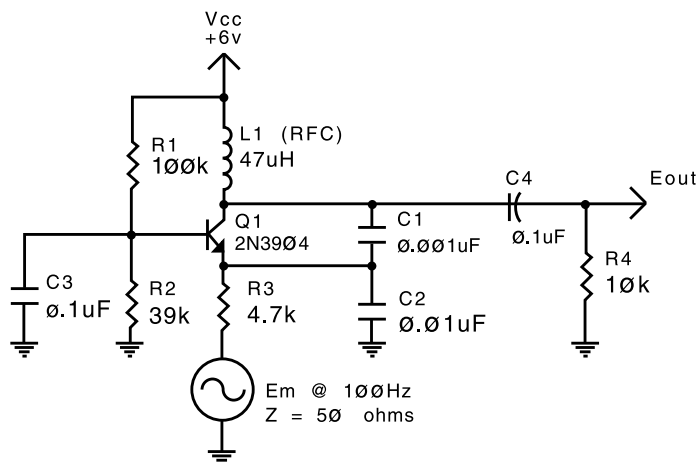

FIGURE 3
- CAREFULLY** wire the circuit of fig. 3, but **DO NOT** apply power. Set E_C to 100 kHz at and amplitude of 2 V p-p. E_m should be set to 0 at this time. NOTE: E_m is adjusted by the Variac. Instructors OK_____